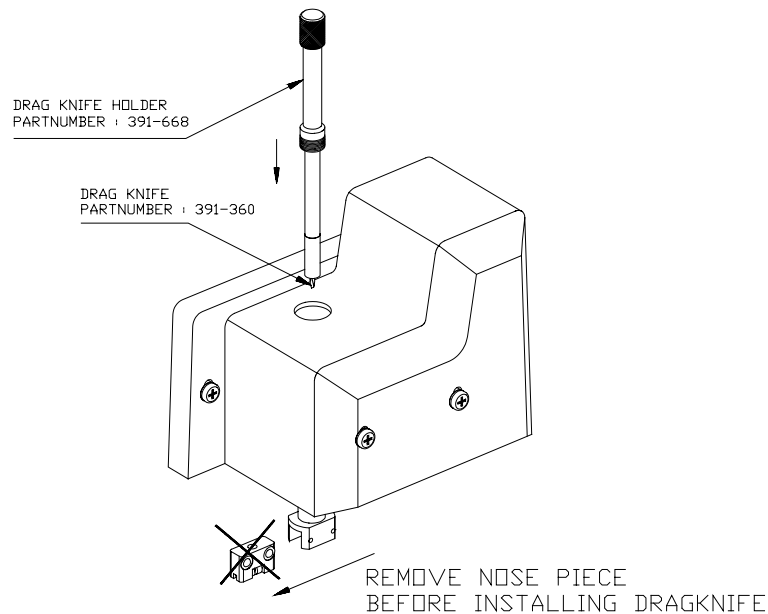

FIGURE 1-12:
3. Remove the nose piece (refer to Fig 1-12).
4. Insert the drag knife into the tool shaft as shown in Fig 1-12. Turn the drag knife holder clockwise while holding the nose piece holder in place.